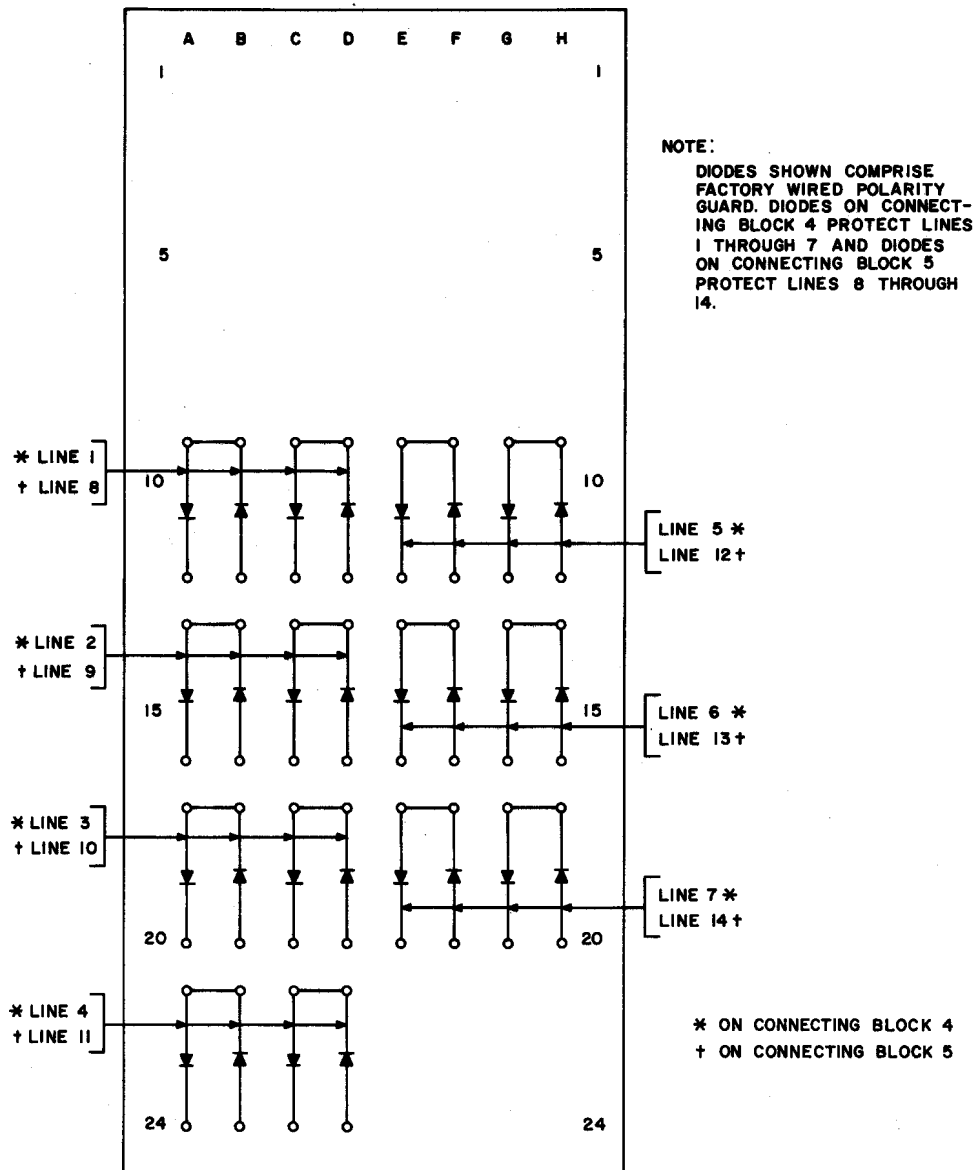

Fig. 7—Terminal Arrangement for Connecting Blocks 4 and 5
- (d) Connecting blocks 4 and 5 (Fig. 7) contain the polarity guard diodes for the CO/PBX lines.